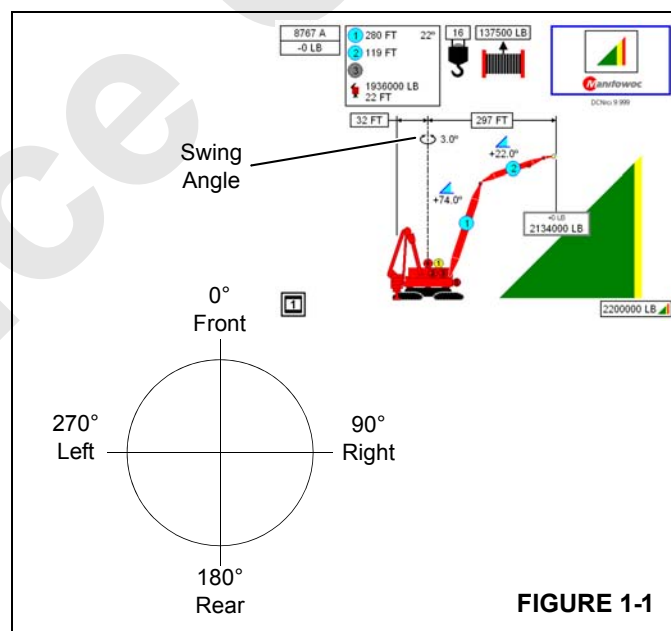

FIGURE 1-1
- To determine the position of the upperworks with relation to the lowerworks, monitor the swing angle on the working screen of the RCL/RCI display (Figure 1-1).